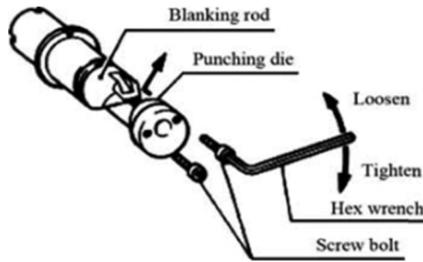
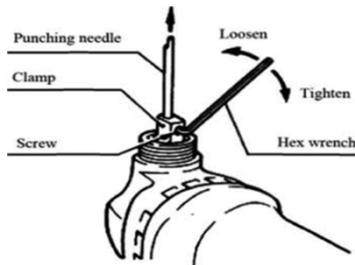

Fig 9
Fig 10
1. Make sure to replace the punching needle and the punching die set. When disassembling them, loosen the cap nut with the wrench, disassemble the rod out of the tool, and then loosen the nut fastening the punching die with a hex wrench. Disassemble the punching die out of the rod, and then loosen the screw rod fastening the punching needle with a hex wrench. Pull the punching needle out of the rod.(Fig9&Fig10)